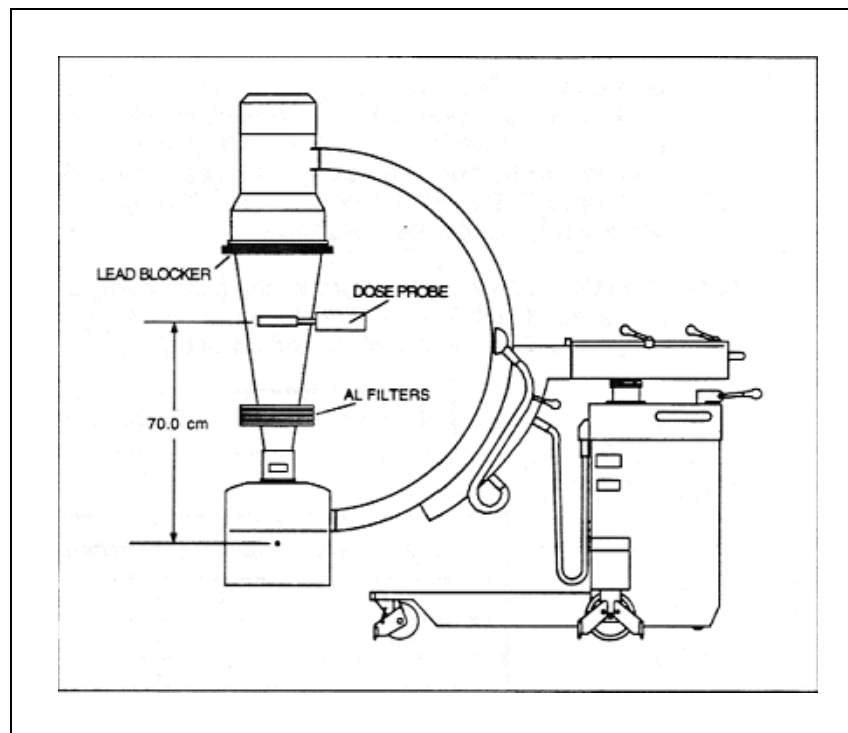

Fig. 3 Setting-up for beam quality test
- Use the 6.0 cc chamber and collimate the beam so that it just covers the sensitive volume of the dose probe ($\rightarrow$ fig. 3, p. 2-14).
- Place a dose probe chamber in the center of the beam, 70 cm from the focal spot (→ *fig. 3, p. 2-14*).
- Block input to the image intensifier with 3 mm of lead blocker (→ *fig. 3, p. 2-14*).
- Initiate exposure. Determine the exposure value (R) and write this number into the first row of the Exposure Data column, in the table below.
- Determine the exposure value (R) and write this number into the next row of the Exposure Data column.